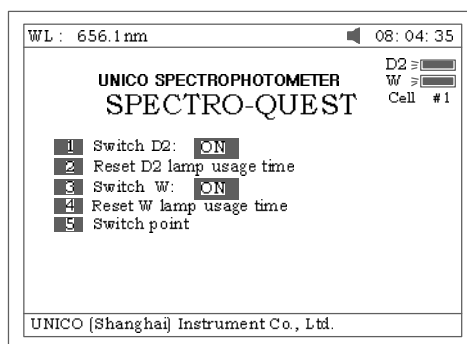
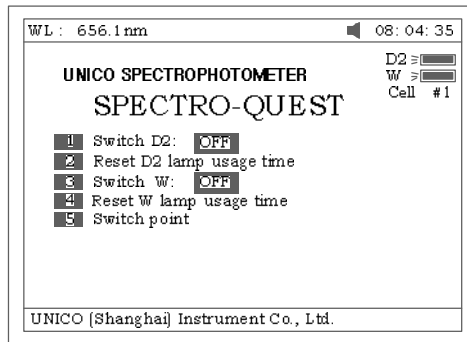
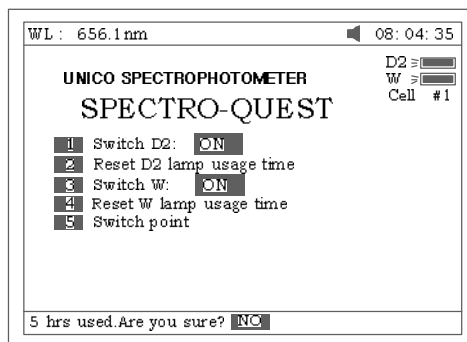
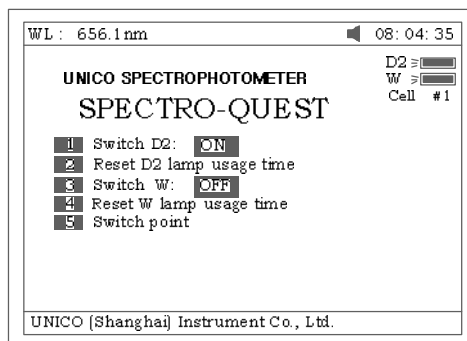

Fig 79
Fig 80
Fig 81
Fig 82
Press **[3]** to set lamp (Fig 79). **[ESC/STOP]** to exit.
1. Press **[1]** in **Fig 79** to switch on/off D2. Fig 80.
2. Press **【2】** in Fig 79 to reset usage time of D2(Fig 81). Press **【Y】** or **【N】** to select “Yes” or “No”, and then press **【ENTER】** .
3. Press **【3】** in Fig 79 to switch on/off W. The indication is also on the top right corner of the screen (Fig 82).
4. Press **【4】** in Fig 79 to reset usage of W (Fig 83). Press **【Y】** or **【N】** to select “Yes” or “No”, and then press **【ENTER】** .
5. Press **【5】** in Fig 79 to set the switch usage point of D2 and W lamp (Fig 84).